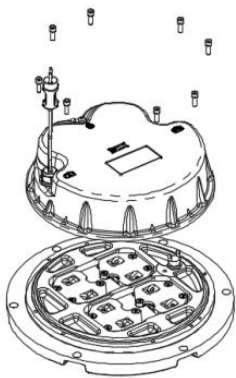

Figure 4-15
- Dismount the screw connecting the inner cover and upper cover to separate them (see Figure 4-15);